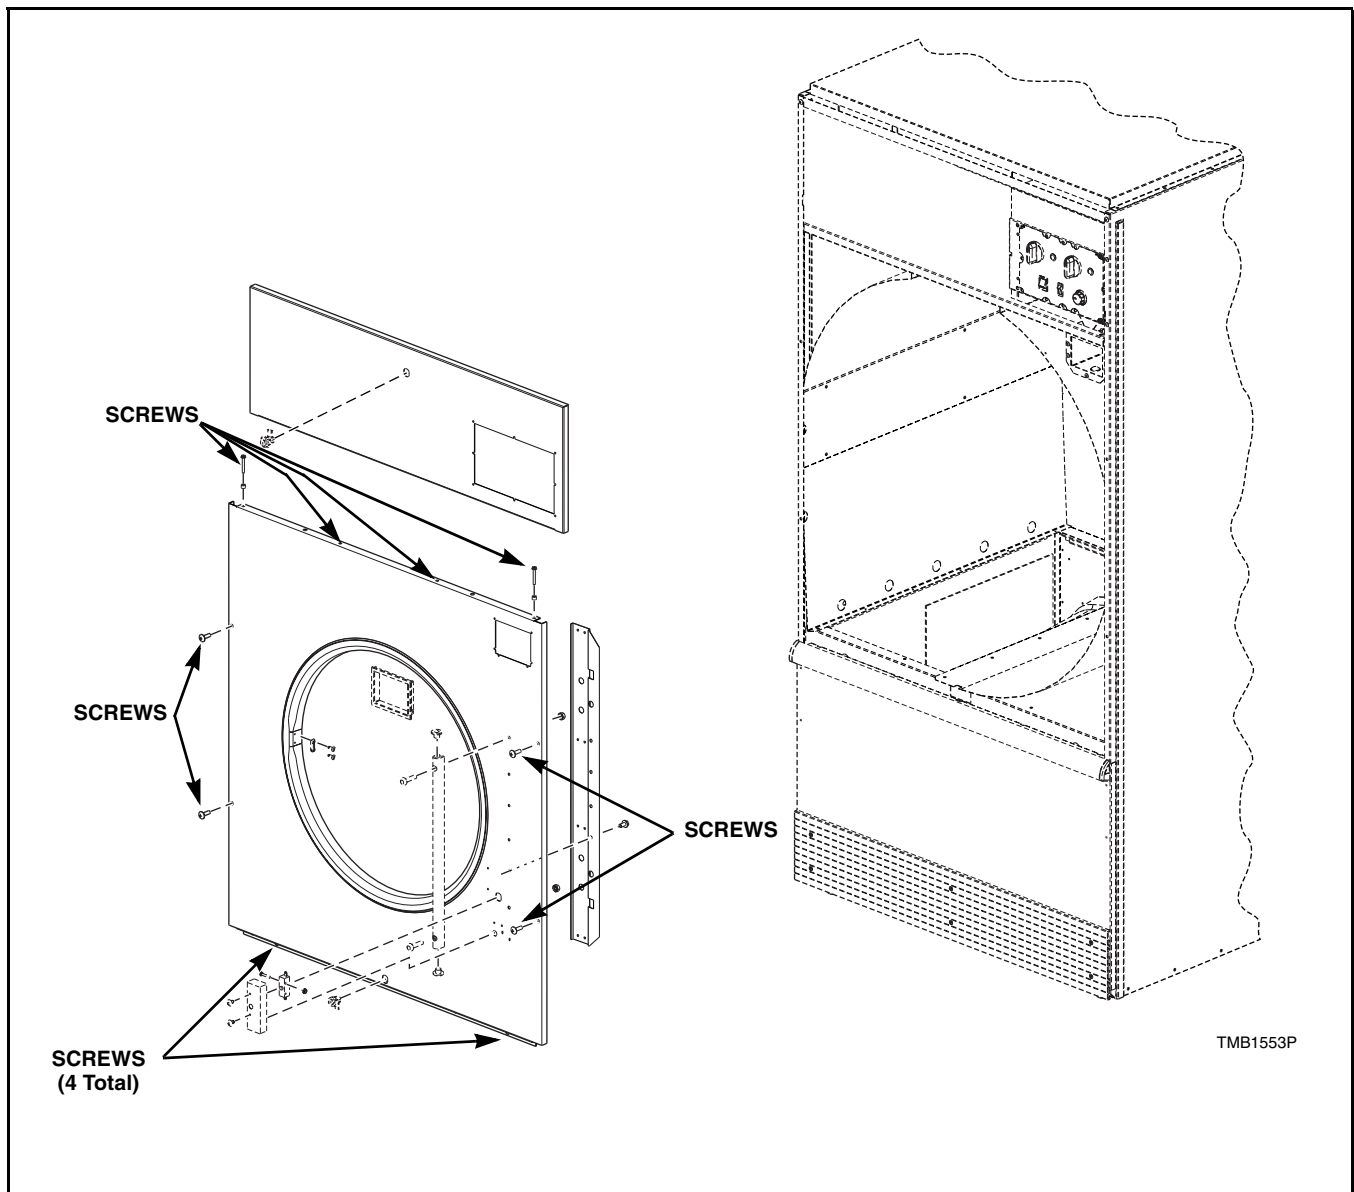

Figure 9
- d. Support front panel and remove all screws holding front panel to tumbler cabinet. Refer to *Figure 9*.